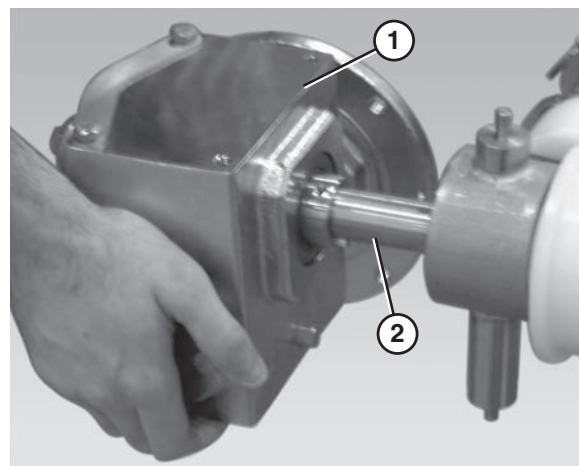

Figure 51
6. Slide the gearmotor assembly (**Figure 51, item 1**) off the drive spindle (**Figure 51, item 2**).